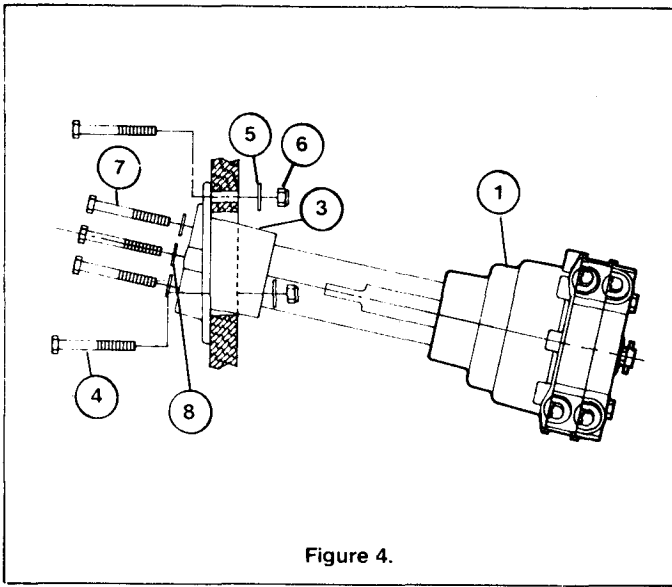

Figure 4.
Secure the helm mounting bracket (item 3) in position using hex bolts (item 4), large flat washers (item 5) and locknuts (item 6). Tighten securely, see Figure 4.
Insert the shaft of the helm (item 1) through the hole in the mounting bracket orienting it in the proper direction for the steering cable entry. Attach the helm securely to the mounting bracket using hex bolts (item 7) and washers (item 8) threaded into the helm. See Figure 4.